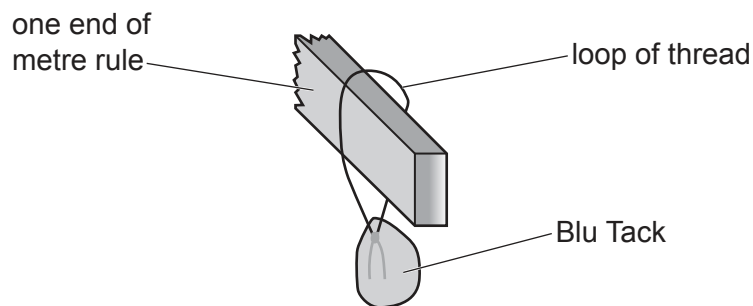

Fig. 3.1
3. Cut a 10 cm length of thread and tie the ends together to form a loop. Mould one of the pieces of Blu Tack around the knotted end of the loop. The other end of the loop must be large enough to slide over the metre rule as shown in Fig. 3.1.